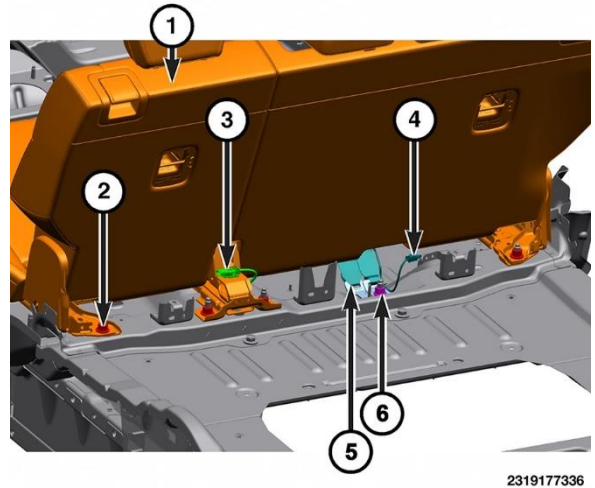

Figure 20 – Rear Seat Components
30. Disconnect the wire harness connectors, if equipped (4) (Figure 20).
31. Remove the nut for the center seat belt anchor (6). Remove the seat belts from the floor stud (Figure 20).
32. Remove the rear seat fasteners (2) at the rear of the seat (Figure 20).
56. Connect the wire harness connectors, if equipped (Figures 20 and 21).